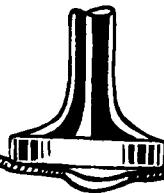

FIGURE 56
- 2 As quickly as possible after the spot turns cherry red, the torch should be laid down, a dinging hammer picked up, and a hard blow struck directly on the heated spot, driving it down. It is not necessary to use a dolly block or other backing-up tool. This hammer blow upsets the hot metal and is the mechanical action and work which shrinks the metal. The spot will now form a crater instead of a peak. (See figure 56).
On a low crown panel which is only slightly stretched, a spot  $3/16$  inch in diameter is large enough. A spot larger than  $1/2$  inch in diameter should never be used on any panel. There is a very good reason for this. In figure 56 it will be noted that the hammer face is much larger than the heated spot. That is important. A slow-motion picture would show the hammer face first striking the peak of the heated spot, driving it down level with the cooler metal around it. Then, the outer part of the hammer face would be seen making